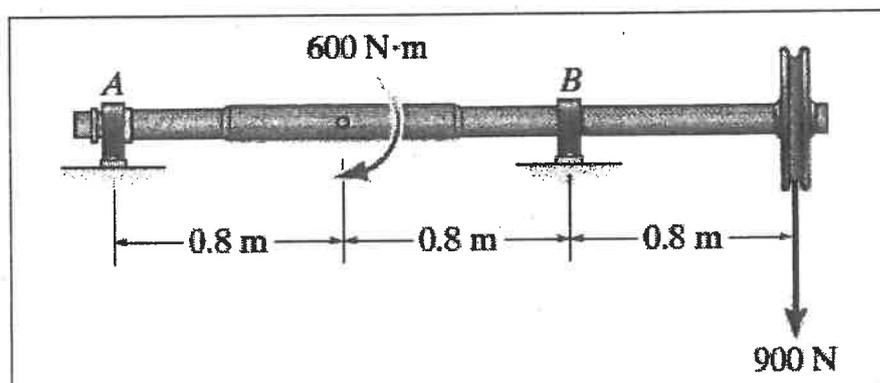

Figure 6
- (a) Figure 6 shows a shaft supported by a smooth thrust bearing at *A* and a smooth journal bearing at *B*.